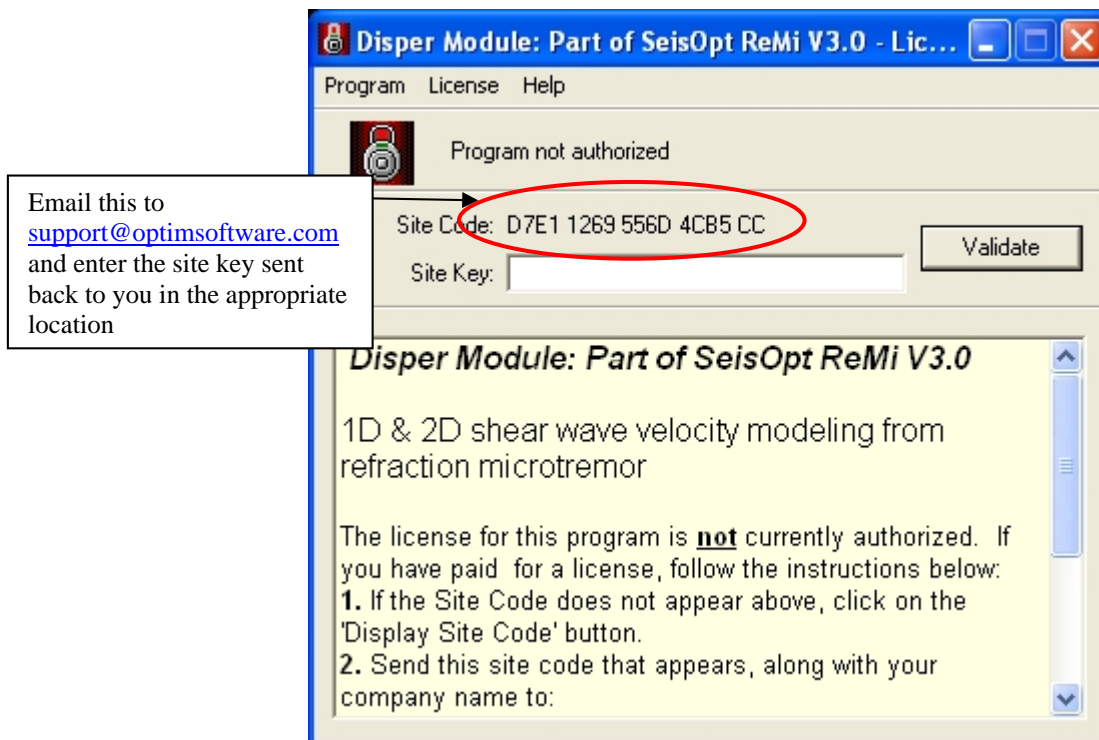

Figure 5: License configuration window for ReMi Disper module displaying the 'Site Code'
4. When the license configuration window appears (Figure 5), a **Site Code** should be displayed, as shown in Figure 5. If not, click the ‘**Display Site Code**’ button.